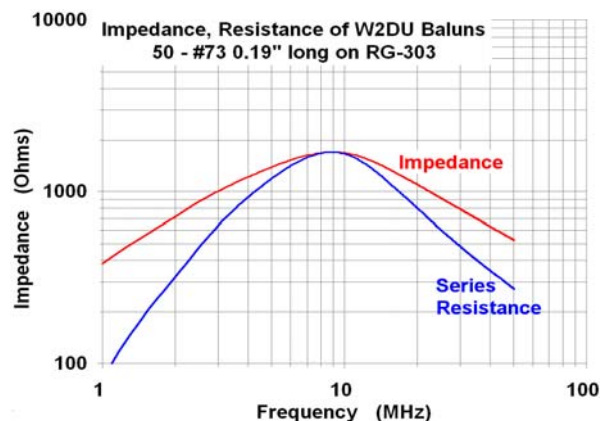

Fig 34 – A W2DU Balun (Measured Data)
through a string of lossy ferrite cores to form a common mode choke, a design which has come to be known as the W2DU balun. Maxwell's design consists of 50 Fair-Rite 2673002402 beads, 0.19" long and just big enough to fit over RG-303 coax (Fig 34). One of his experimental models used 300 beads, and measured 4500 + j3800 ohms at 4 MHz. Notice that his choke is resonant at about 8.5 MHz because that is where his #73 beads are resonant. A W2DU balun will be most effective on 40M, 30M, and 20M.
- ♦ 1) We are stuck with the resonant frequency of the bead used in the string. If the bead is inductive, the choke will be inductive, and nearly all commonly available beads are inductive in the HF spectrum. The exception is Fair-Rite #73 (see Fig 34), and the largest cable that fits through the largest #73 bead is RG-303.
- ♦ 2) As Figs 34 and 35 show, it takes a very large number of beads to achieve even modest choking impedance. The usual compromise is using too few beads, which results in insufficient choking impedance. The resulting common mode current can overheat the balun, often to the point of failure, and couple RX noise.